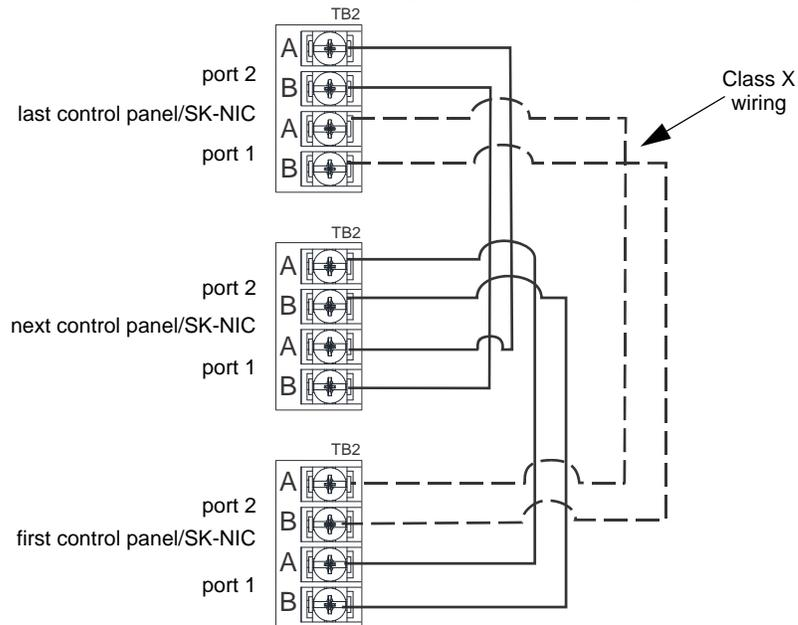
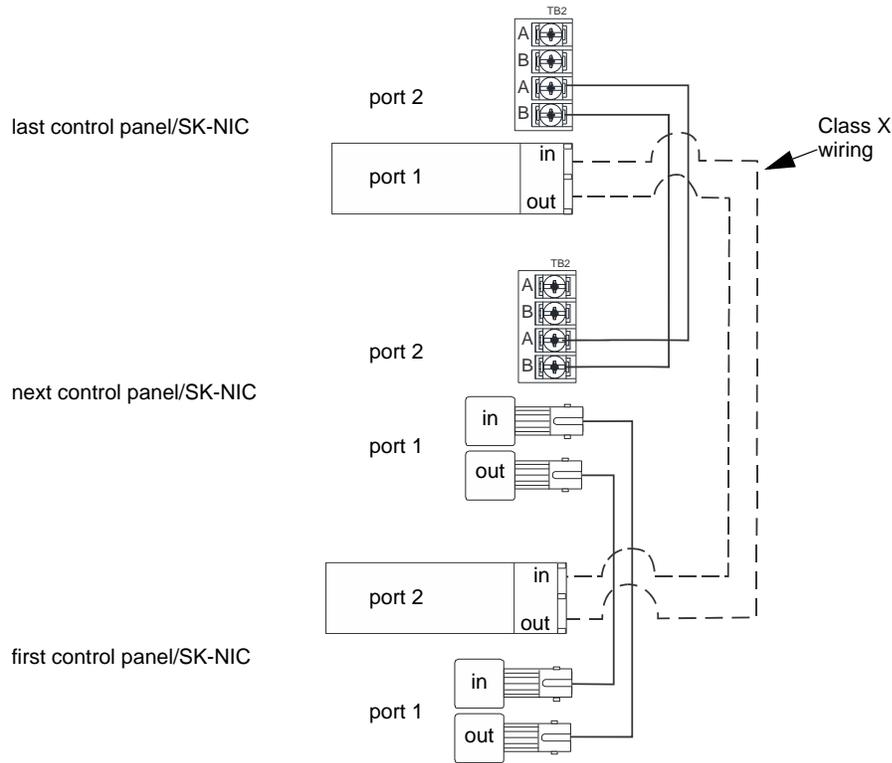

Figure 5.6 Twisted Pair Wiring Configuration
Figure 5.9 Twisted-Pair and Fiber-Optic Combination Wiring Example
- Based on the type of data medium chosen, run the twisted pair wiring/fiber-optic cable to the next SK-NIC using a Class B or Class X wiring method. A combination of both medium types can be used. See Figure 5.6 through Figure 5.9 for SK-NIC wiring examples.
Unshielded twisted-pair wiring between multiple panels is shown in Figure 5.6. Class X wiring is shown with a dotted line.
A mixture of fiber-optic cable and twisted-pair wiring between multiple panels is shown in Figure 5.9. Class X cabling is shown with a dotted line.